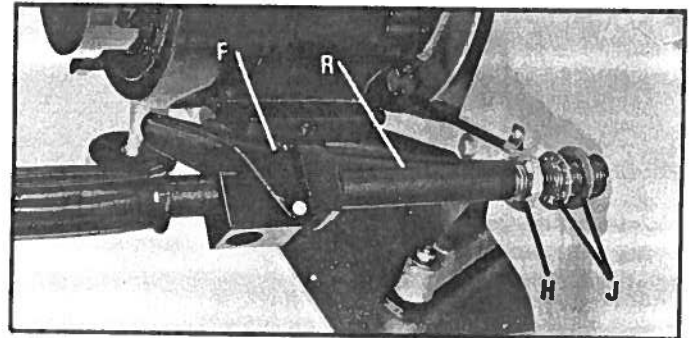

Fig. 4
3. Slide throttle control (F) Fig. 4, onto right handle (R), as shown.
4. Thread locknut (H) Fig. 4, to within 1/2" of end of threads on right handle and assemble lockwasher and flat washer (J) onto threaded end of handle.
5. Thread handle (R) Fig. 4, into the housing as tightly as possible. Then securely tighten locknut (H) against the housing.